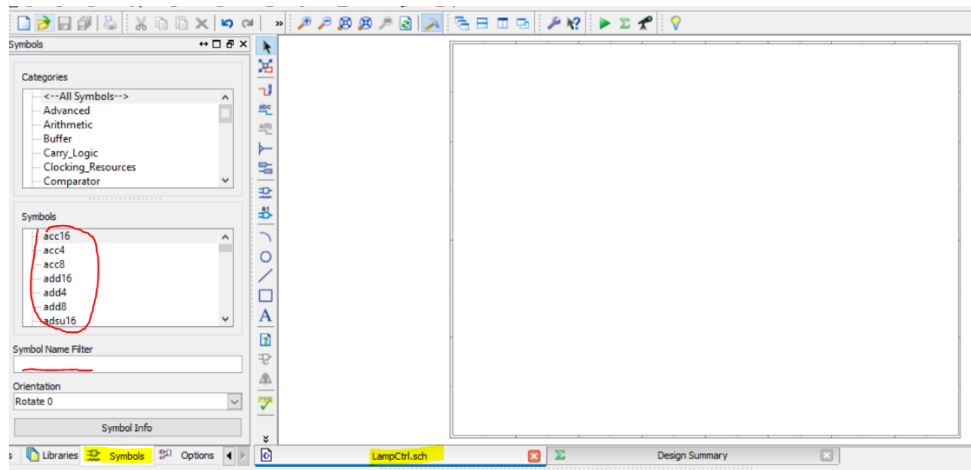

Figure 3 New schematic file created
- A sketch area will be created, and logic circuit can be drawn on the sketch area. Symbols can be found by searching above red line and search result will be displayed in red circle as shown in figure 3.